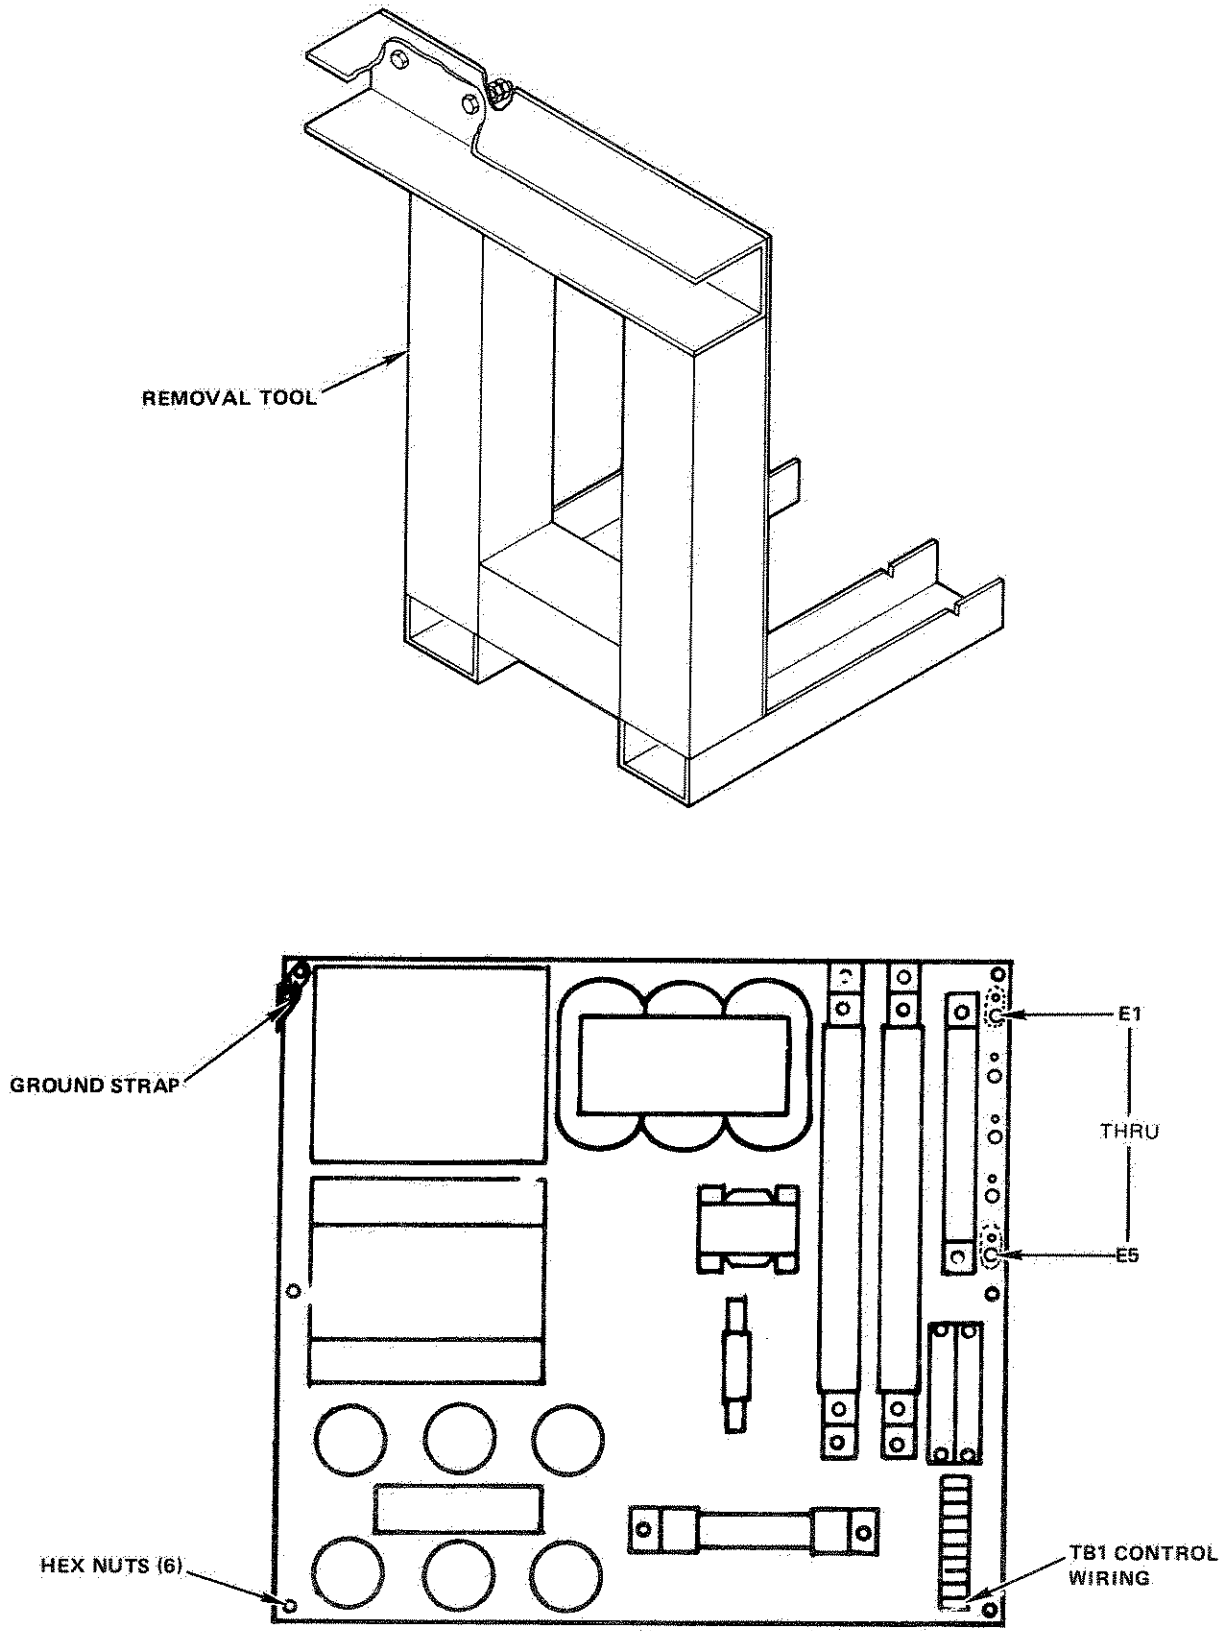

Figure 6-87. PA Bias Power Supply
5. Install power supply removal tool, see figure 6-87, on base of transformer at upper left corner of supply. Make sure V-notch engages bottom edges of power supply.
6-5.19.2 PA Bias Power Supply 1PS5 Installation. Refer to Figure 6-87 and perform the following.